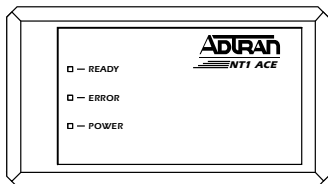

Figure 1-1. ADTRAN NT1 ACE
The ADTRAN NT1 ACE provides an interface between customer ISDN terminal equipment (TE) and the basic rate ISDN network (U). Figure 1-1 is an illustration of the NT1 ACE.